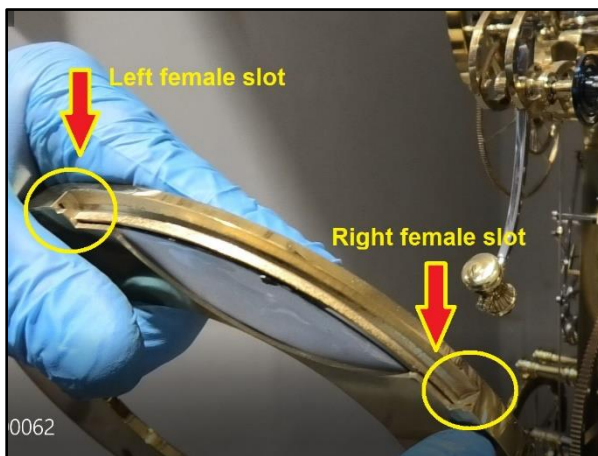

Fig. 3. Left and right female slots, top of tellurion dial
2. Attach the tellurion dial. ⚠️Note! The upper portion of the tellurion dial is held by the lower end of the Sun/Moon, rise-set dial. The upper portion of the tellurion dial has a pair of female slots, Fig.3, which fit into the male notches, Fig. 4 of the Sun/Moon rise-set dial. Therefore that module must first be installed.